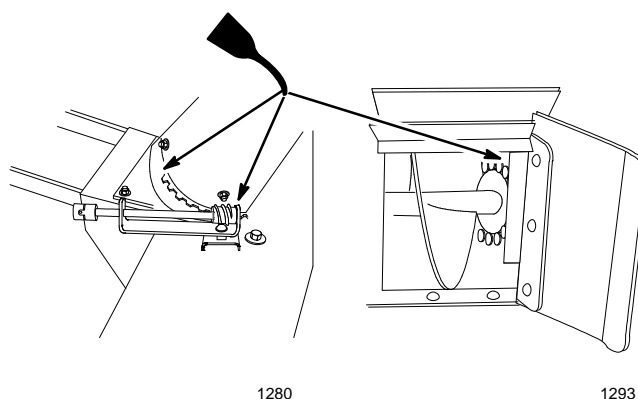

Figure 25
2. Coat the entire chain with oil and allow to penetrate each roller (Fig. 25).
3. Place a few drops of oil on discharge chute rotator shaft and discharge chute mounting (Fig. 25).